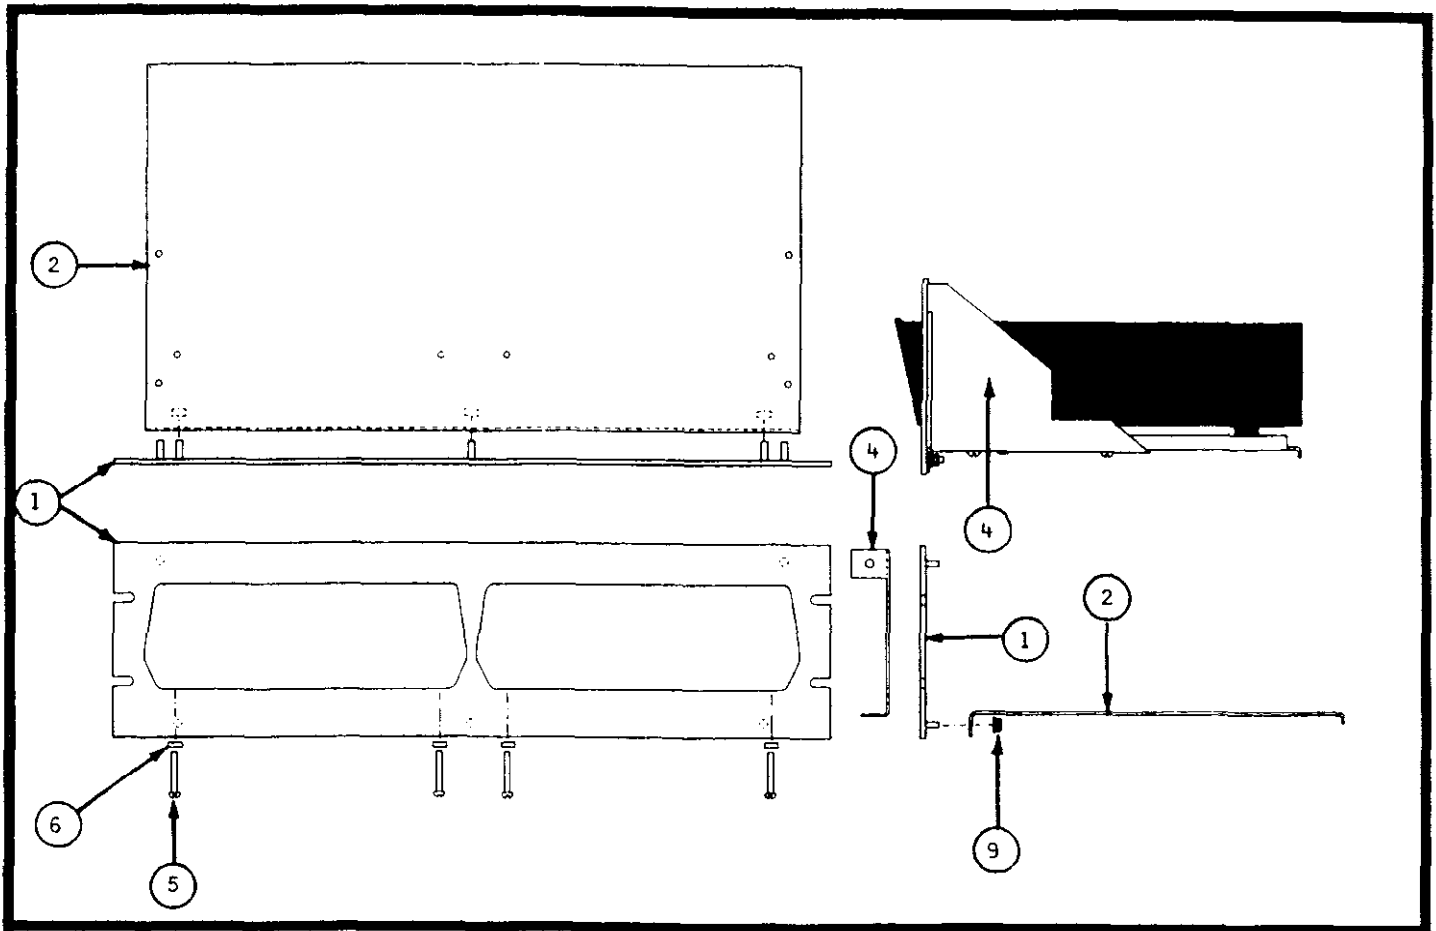

FIGURE 4-2, Model 1017 Dual Rack Mounting Kit.
**Assembly Instructions:** (See Figure 4-2, page 4-4.)